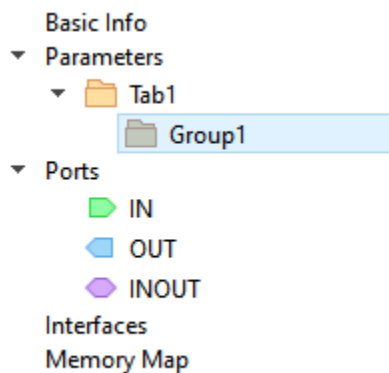

Figure 3.14. Group1 Added to Tab1
- Right-click **Tab1** under **Parameters** from Meta Data view, and choose **Add Parameter Group**. **Group1** is newly added under **Tab1** (Figure 3.14).